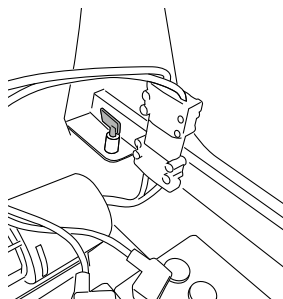

fig. 12
**NOTE: if needing to push the machine when off or without the batteries, turn the appropriate key to disengage the electric drive motor; this will disable the machine’s automatic braking function (fig. 12).**